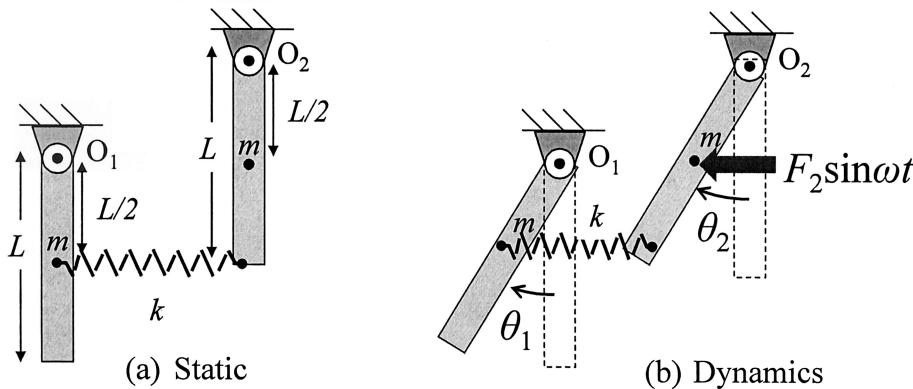

Figure 6
- (b) Figure 6 shows two identical compound pendulums each of mass m and length L being pivoted at different height. The pivot of the right pendulum is half span (length) higher than that of the left one. Meanwhile, the two pendulums were coupled by a spring of spring constant k , which connects the middle of the left pendulum and the tip of the right one.